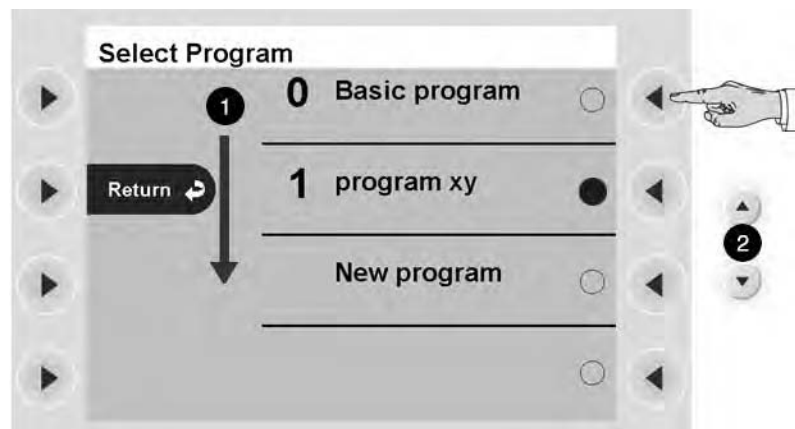

Fig. 5-5
You will then move to the *Select Program* window (Fig. 5-5). You will then see a selection list of various programs (1).
1. If you press the Up/Down buttons (2), and more than 4 programs are stored, the window scrolls the program selection list (Note: The active program is marked in green.).